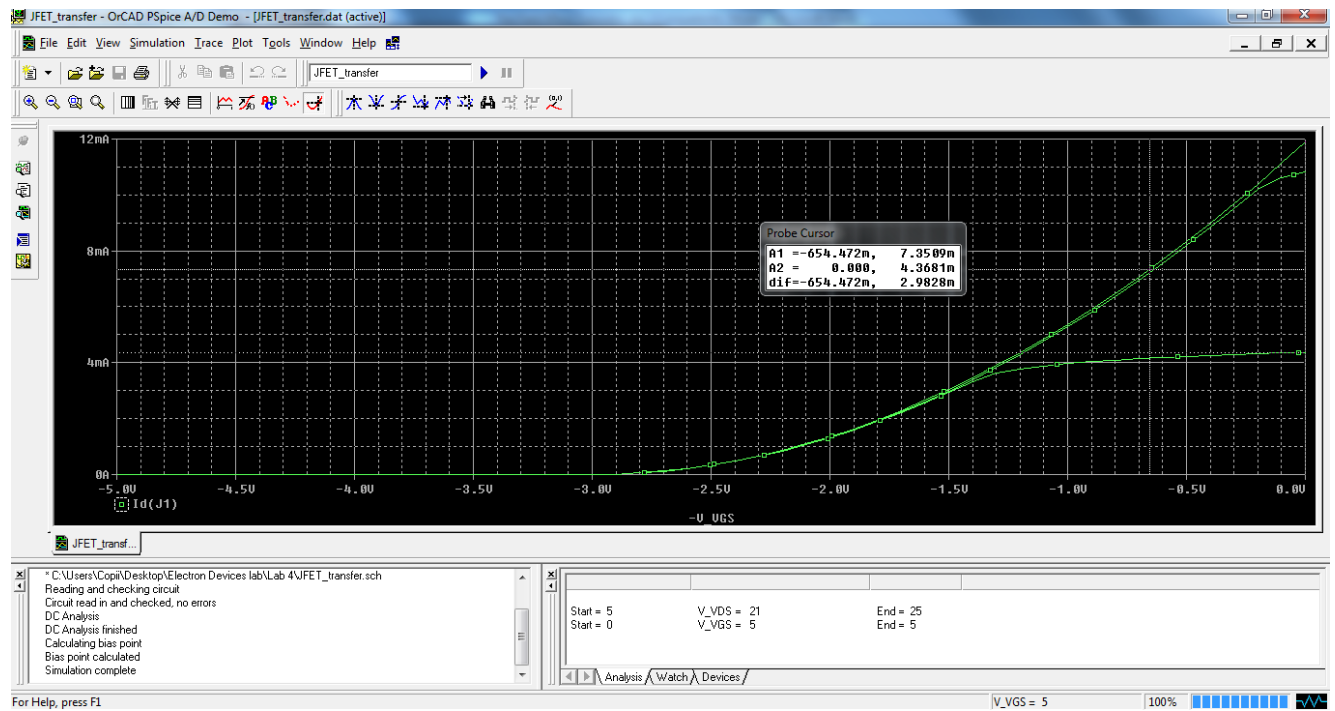

Fig.14.The measurement of the transfer characteristics $I_D - V_{GS}$ for the n-channel JFET
By selecting the Toggle Cursor, the simulation results may be displayed. For the first two $I_D - V_{GS}$ characteristics, the current saturation occurs because of the drain resistor (R) (Fig.14).